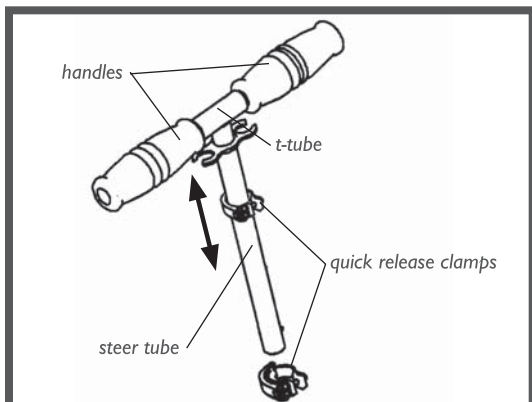

Figure 12
I. TRAINING HANDLE COMPONENTS & MOUNTING (FIG. 12).